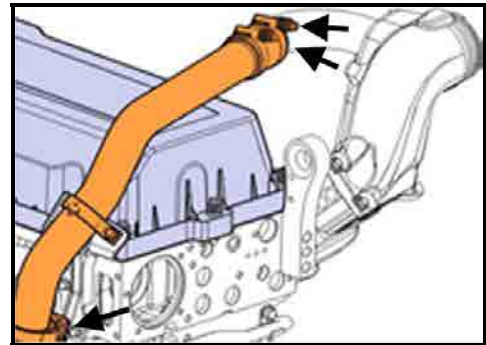

FIGURE 29
23. Position the crossover pipe with new O-ring #967343. Make sure the O-ring is in place and install the V-band clamp (fig.29). Torque-tighten fasteners to specification.